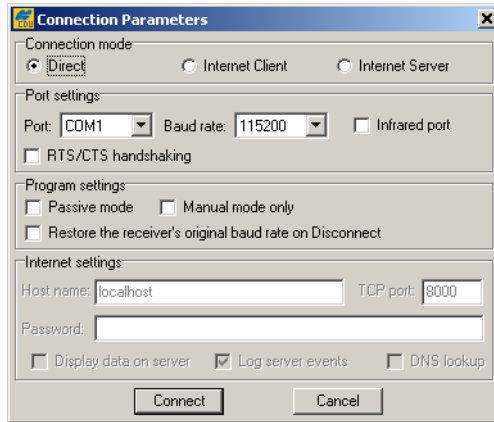

Figure 2-8. Bluetooth and RS232 Connection Parameters
- for Bluetooth or RS232 connections (Figure 2-8 on page 2-14):